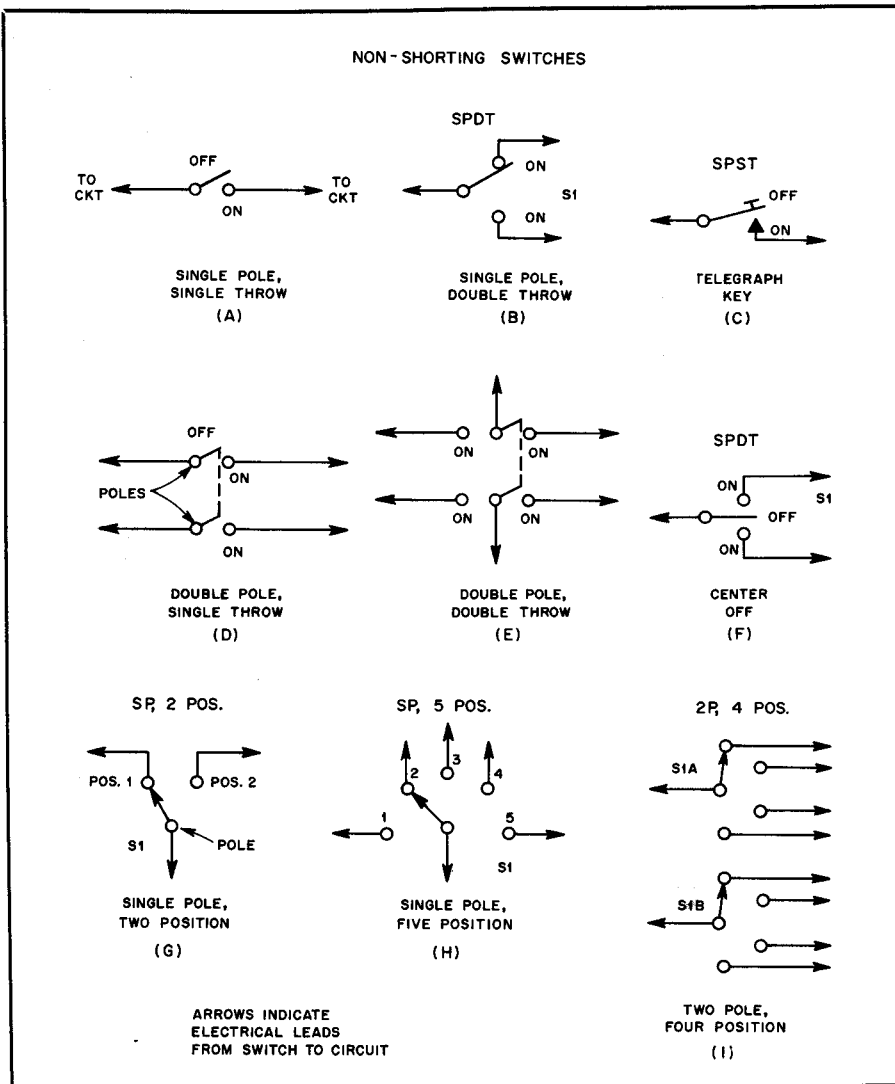

Fig. 2 — Electrical symbols for a number of common switches used in Amateur Radio work.
Some of the more commonplace switch symbols are depicted in schematic form in Fig. 2. The simplest switch is shown at A and C. This is what we call an SPST (single
pole, single throw) switch. A telegraph key (C) is actually an SPST switch that we open and close by hand to form the Morse code characters. When we use the switch at A, we can complete only one circuit. This type of switch is common in our TV sets, lamps and household appliances. But, if we want to control two circuits, we must use an SPDT switch (Fig. 2B). Here we have two ON positions. As we examine the progression of switch symbols in Fig. 2, we will recognize the utility of switches with more than one pole and two throws.
The switches from A through F in Fig. 2 are considered to be *toggle* switches. This style of switch has a bat handle or flat lever used to operate the switch. These switches are available also as "rocker switches." This variety is built with a plastic bar that is pressed on one end to operate the switch to close one circuit; the opposite end of the rocker bar is depressed to change to another circuit. There is a rocking action to the bar; hence the name "rocker."
Switches can be obtained also with a "center off" position. We can see this at F of Fig. 2. Here we have two ON positions and a center position that is OFF. In the off condition our switch pole is in midair, so to speak.
The switches shown schematically from G through I of Fig. 2 are what we refer to as rotary switches. This means that instead of an up-down or side-to-side action (as with toggle switches), we rotate the switch shaft and pole clockwise or counter-clockwise. The contacts that the pole conductor touches during rotation are mounted on a thin wafer of phenolic, plastic, ceramic or steatite material. The usual name for these switches is "rotary wafer switch." Rotary switches may contain several decks of wafers, and may have 30 or more positions. These are often called multiwafer or multigang switches.
of switch, (the switches of Fig. 2 are non-shorting units). How do these switches differ? Well, if for some reason we want to short out the circuits that are connected to the switch terminals while only one event is controlled by the nonshorted contact, we may use a shorting style of switch. Perhaps a more common type of shorting switch is the rotary type with a pole contactor that is sufficiently wide to cause any two adjacent wafer contacts to be shorted together as the switch is cycled to a new position. Once the switch is in the intended position, the shorted condition ceases. This wiping action is useful when we do not want to interrupt one circuit until another is closed. These switches are not used very often, but we should understand how they can be used in case a special application comes up.